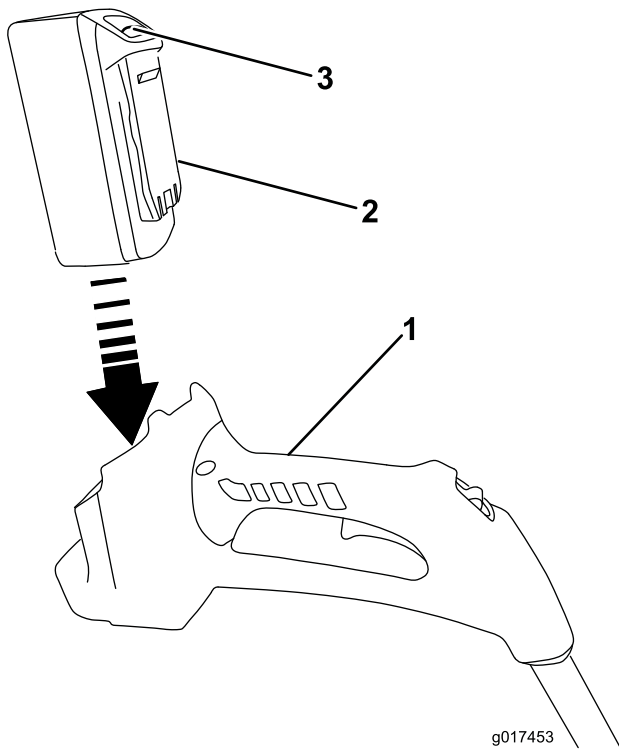

Figure 7
- Align the tongue of the battery pack with the cavity in the handle housing (Figure 7).
2. Grasp the trigger handle (Figure 7).